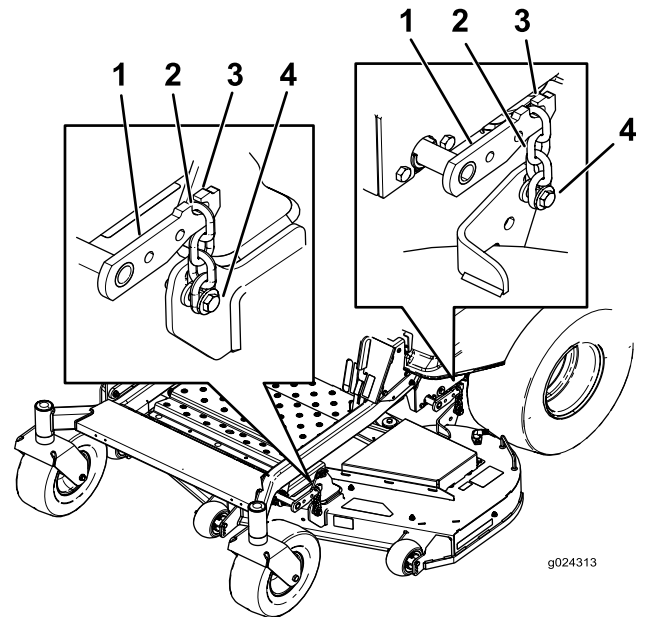

Figure 74
3. Remove the chains from the hooks on the deck-lift arms (Figure 74).
6. Lift the rear of the mower deck and attach the chains to the rear lift arms (Figure 74).
7. Attach the front chains to the front lift arms (Figure 74).